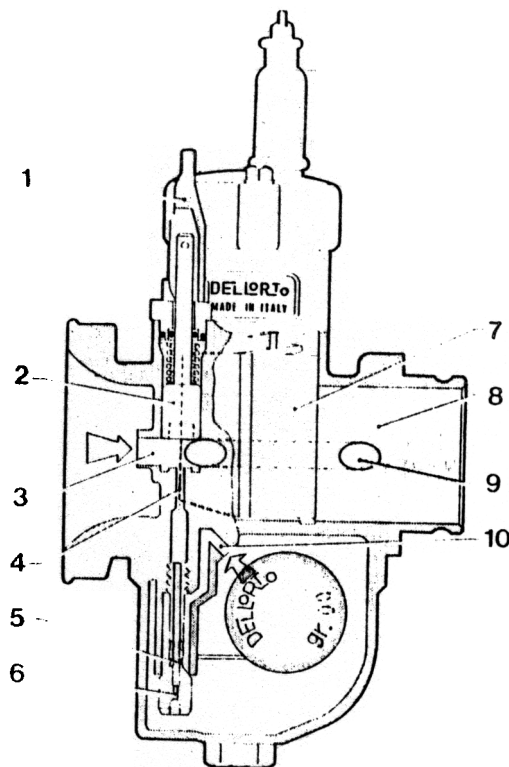

fig. 15
It is called «independent» because the starting device operates with its own circuit including a starter jet, emulsion tube and a starter valve (fig. 15)
Figure 15 shows the mixture strength delivered through the emulsion tube depends on the size of the starter jet (6) and on the size of the air duct (10).